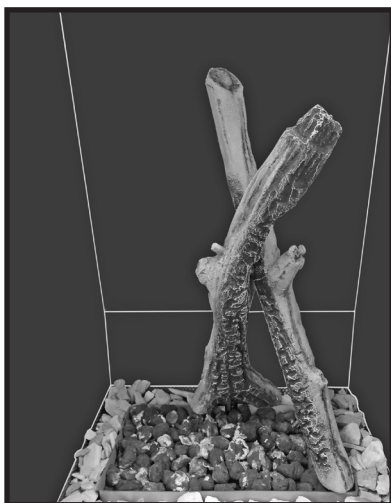

Figure 35: Log 2.
2. Interlock right log #2 with rear log (Figure 35).